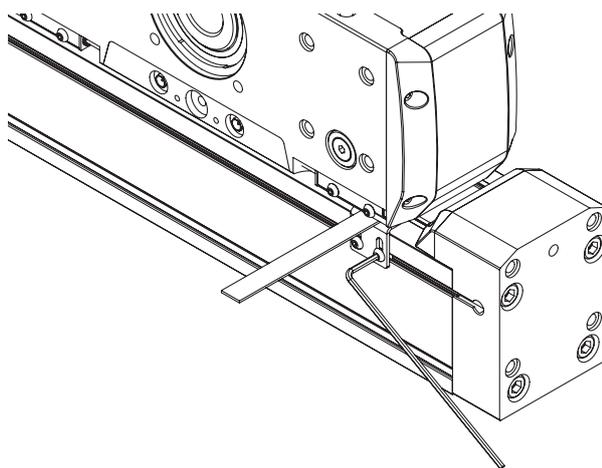

Fig. 6.46 **Setting the switching distance with a feeler gauge, and tightening the bolts**
- ▶ Move the drive block housing until one limit switch is above a damping element (see Fig. 6.46). Using a feeler gauge, align the damping element so that the following values are set for the switching distance: